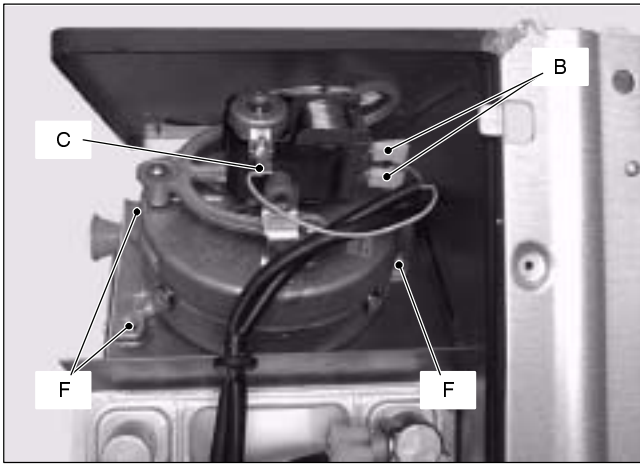

Fig. 67
- 2 Disconnect the connectors B (Fig. 67) and measure the electrical resistance of the motor that has to be about:
- 2 Disconnect the connectors B and the earth connection C (Fig. 67).
- 5 Remove the three screws F (Fig. 67) securing the Fan to the flue hood and remove the fan.